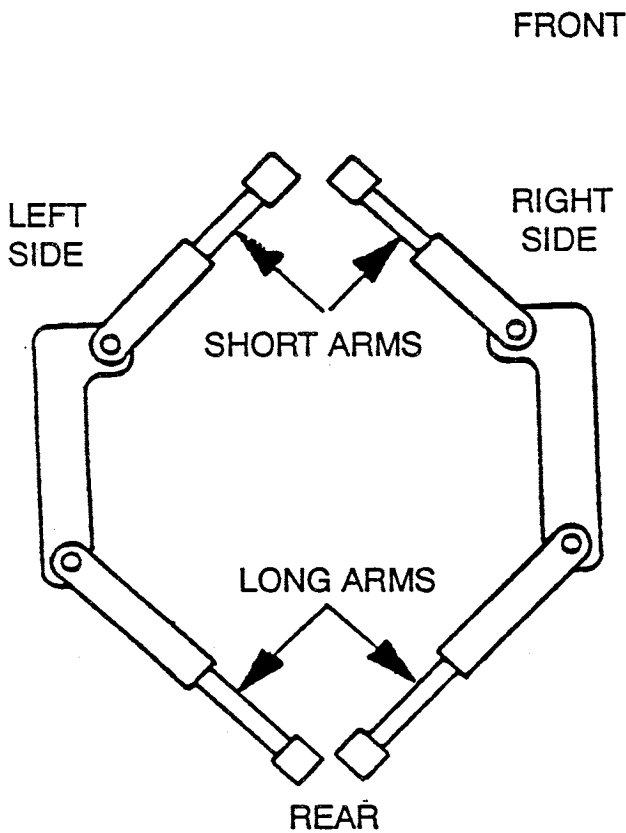

FIG. 5
1. Remove 5/16" x 3/4" hex head bolts that are locking the arm pins to the arm. Install telescopic arms on carriage, short arms on the front and long arms to the rear. *See Figure 5.*